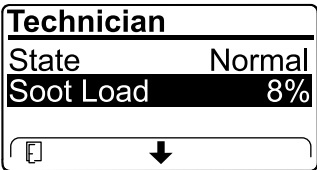

Figure 44
- View the soot load which is measured as the percentage of soot in the DPF (Figure 44); refer to the soot-load table.